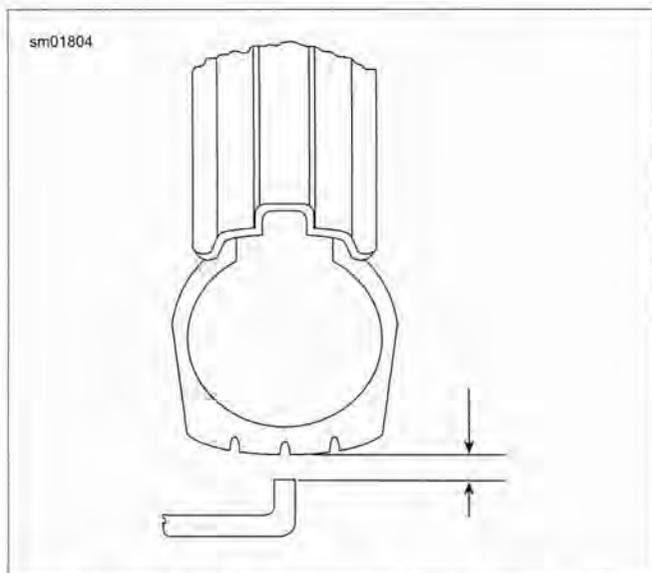

Figure 2-133. Checking Tire Radial Runout
2. See Figure 2-133. Turn the wheel on the axle and measure tire radial runout at the tread centerline.